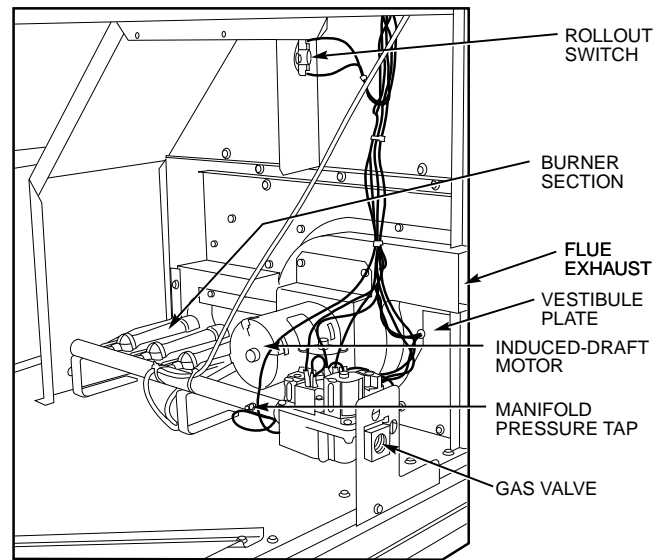

Fig. 45 — Burner Section Details
2. Remove the 6 screws that attach induced-draft motor housing to vestibule plate (Fig. 45).
REMOVAL AND REPLACEMENT OF GAS TRAIN (Fig. 45 and 46)